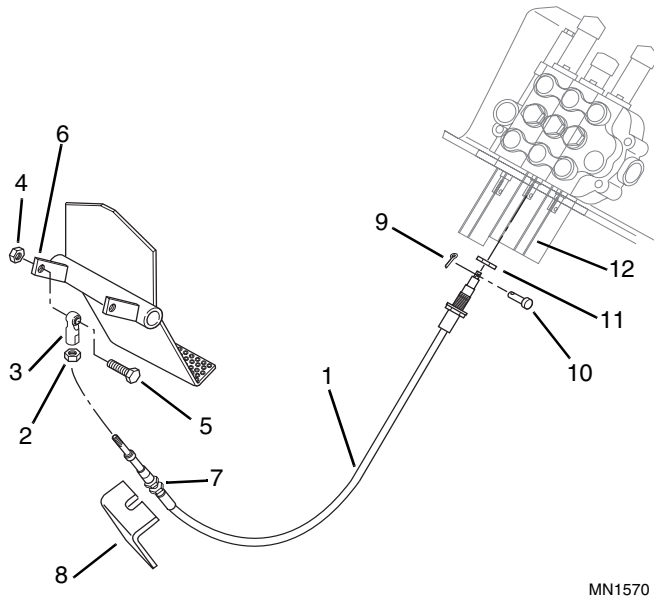
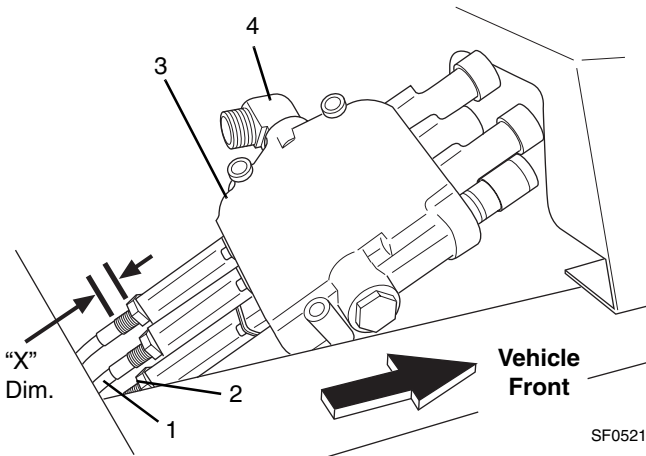
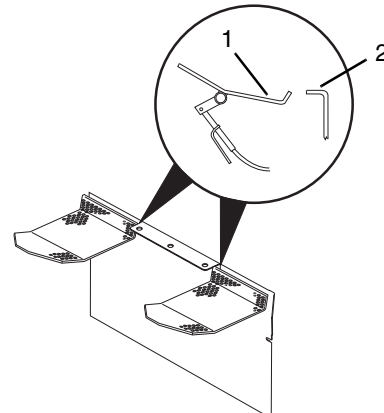

Figure 7-55 Foot Pedal Cable (Right Side Shown)
Figure 7-56 Main Control Valve Installation
Figure 7-57 Foot Pedal Adjustment
1. Insert the valve end of the control cable (Fig. 7-55, 1) into the control valve strap adapter (12), and loosely install the jam nut (11).
2. Adjust the length of the exposed threads (Fig. 7-56, "X" Dimension) on the cable housing to the measurement recorded during the removal procedure. If this dimension was not recorded, adjust the length of the exposed threads on cable (2) to 7/16" (11 mm), and on cable (3) to 9/16" (14 mm). Tighten the jam nut (Fig. 7-55, 11).
3. Align the control cable (Fig. 7-55, 1) to the valve spool, and secure with a clevis pin (10) and cotter pin (9).
4. Reassemble the main control valve (Fig. 7-56, 4) to the crossmember with the original three capscrews, and tighten securely.
5. Remove the hose fitting cap and hose plug, and reassemble the hose to the fitting (Fig. 7-56, 5) on the left side of the valve. Torque the hose (Refer to Section 2.8, "Torques").
6. Insert the opposite end of the control cable (Fig. 7-55, 1) into the cable anchor (8), and secure with hex jam nut (7).
7. Install the hex jam nut (Fig. 7-55, 2) and ball joint (3) loosely onto the threaded end of the control cable (1).
8. Position the foot pedal to align its upper rear edge (Fig. 7-57, 1) with the lip on the panel (2). Adjust the ball joint (Fig. 7-55, 3) on the cable to align with the hole in the foot pedal. Insert the capscrew (5), and secure with a new elastic locknut (4).
9. Tighten the hex jam nut (Fig. 7-55, 2) to the ball joint (3).